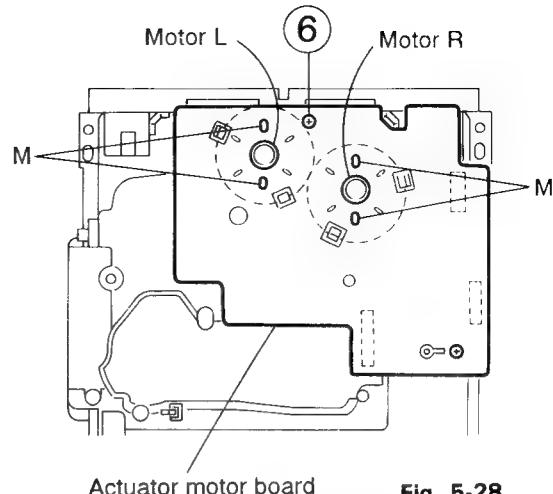

Fig. 5-28
(See Figs. 5-28 and 5-29)
- Absorb the four soldered positions (N) of the right and left motors with a soldering absorber (See Fig. 5-28).
- Remove the one screw (11) retaining the bracket (See Fig. 5-28).